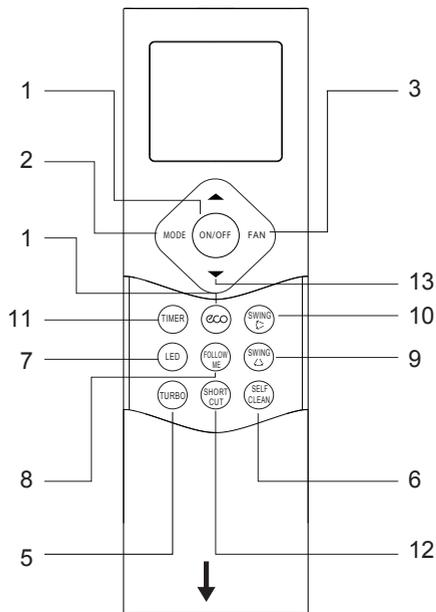

fig. 1 -
The remote control ("fig. 1 -") has a series of keys and a display which visualizes all the activated functions and the various parameters the user and installer need in order to correctly use the unit itself.
6. **SWING mode** (nothing is shown on the remote, the indoor unit display shows the text "ON" for 3 seconds when the mode is activated, "OF" for 3 seconds when the mode is deactivated). The automatic movement of the air flap is activated by pressing the "SWING" button. Keep pushed the "SWING" button  (part. 9 "fig. 1 -") to activate automatic movement of the flap. Push once the "SWING"  (part. 9 "fig. 1 -") button to adjust the position of the flap by 6°.
8. **Key lock**. Pressing the "TURBO" (part. 5 "fig. 1 -") and "SELF CLEAN" (part. 6 "fig. 1 -") buttons simultaneously for one second activates / deactivates the remote control keypad lock.
9. **Shortcut Function**. Memorizes the current settings and enables to recall them rapidly. Push the "SHORTCUT" (part. 12 "fig. 1 -") button for 2 seconds to save current settings. Push the "SHORTCUT" (part. 12 "fig. 1 -") button to recall the saved settings.